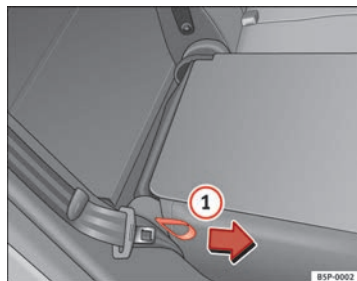

Fig. 98 Folding or opening the rear seat backrests
- Pull the loop on the side of the seat ⇒ Fig. 98 ①